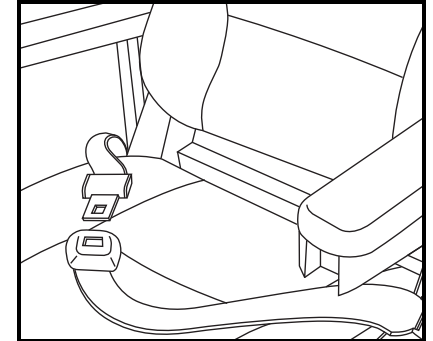

Figure 23. Positioning Belt Adjustment
Your power chair may be equipped with a positioning belt that can be adjusted for operator comfort. See figure 23. The positioning belt is designed to support the operator so that he/she does not slide down or forward in the seat. The positioning belt is not designed for use as a restraining device.
1. Once seated, insert the metal tab on one side of the belt into the plastic housing on the opposite side until you hear a click. See figure 23.